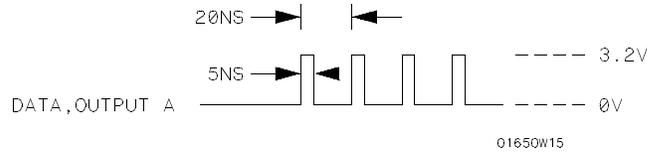

Figure 3-30. Waveform for Glitch Test
2. Adjust pulse generator for the output in figure 3-30.